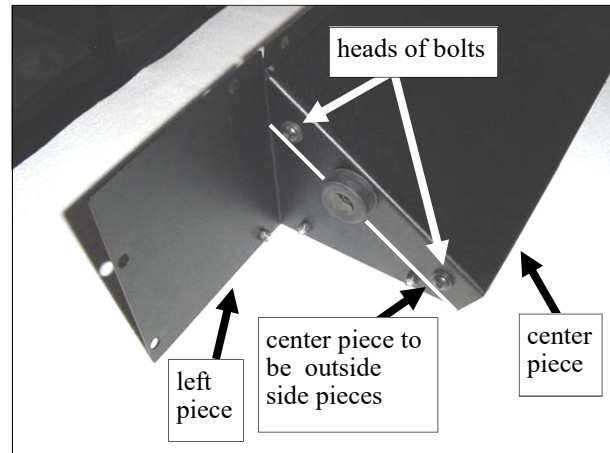

Fig. 7.1 (view from left rear side of tractor)
7.1 Per fig. 7.1, mount the left piece to the center piece with the left piece inside the center piece. Use the following hardware: two 5/16 x 1" long button head bolts, four steel washers, two plastic washers, and two locknuts. Bolt heads to be outside as shown. Tighten bolts. Repeat on the other end for the right piece.